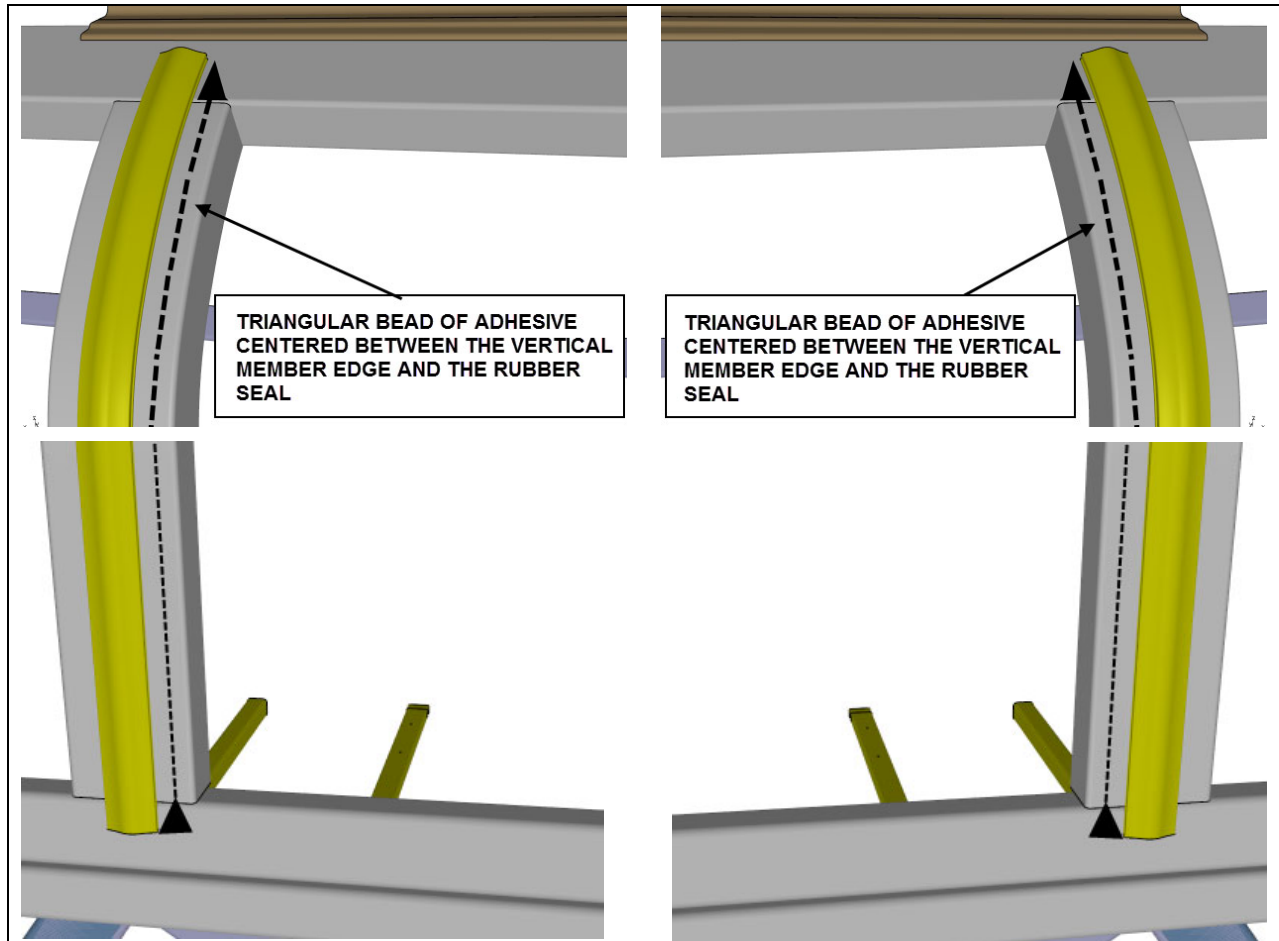

FIGURE 7
9. Apply a **continuous** triangular bead of adhesive on R.H. and L.H. side vertical members. Apply the adhesive bead centered between the vertical member edge and the rubber extrusion (FIGURE 7).